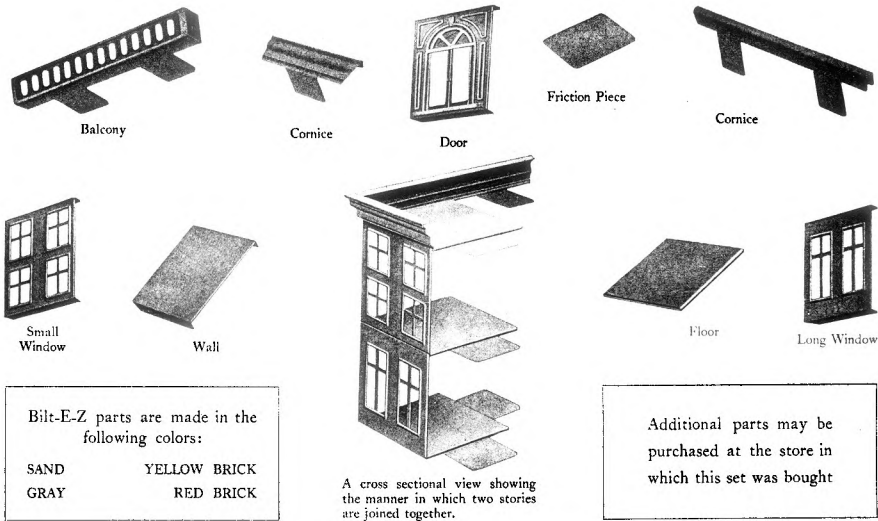

**FIG.2** Parts listing, ref. 1
Ref 1 shows "structural" parts and structural sets AA and BB with those parts - see Figs. 2 & 6. I have not seen any of these parts; since no method is available to connect the tops of the "structural" wall pieces, the bridges illustrated would be quite weak. Perhaps this was recognized and these sets were short-lived. Ref 1 and 2 are the same except for the parts illustration (Figs. 2 & 3), and the last page (which would be 20 if it were numbered). Ref 1 has the description of sets AA and BB, while ref 2 has an illustration of the very large model (Fig. 1 above). It is some 66" high and has some walls with other than 90° corners. I have built a model (much smaller, of course) based on the principle illustrated and, while providing a complete roof was awkward, it looked very nice. I have only seen one copy each of refs 1 and 2: those in my collection.
cutouts below, and three pie-shaped cutouts forming the arch above. I have not seen any examples of this variation, and am not sure it exists. The single window No. 7 is included only in the two largest sets (G and H early on, or E and F later). Again, the parts illustrations show two versions: a simple single four-paned square window centered in the wall in the early (Ref 1) manual (Fig.2), and the one with the embossed decoration and two-pane rectangular window shown in MCS (and in Refs 3-6). Ref 2 shows neither window, but then it doesn't show the No 4 windows either, but they were included in the set with that manual.